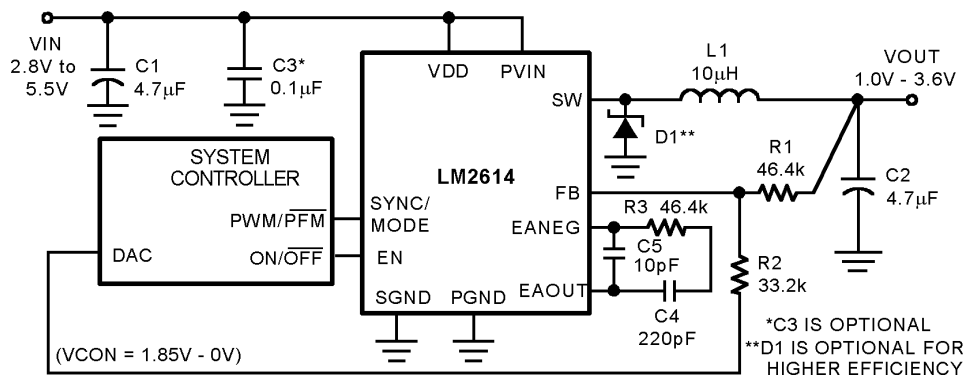

Figure 23. Typical Operating Circuit
- (1) The LM2614 is designed for mobile phone applications where turn-on after system power-up is controlled by the system controller. Thus, it should be kept in shutdown by holding the EN pin low until the input voltage exceeds 2.8V.
- (2) The hysteresis voltage is the minimum voltage swing on the FB pin that causes the internal feedback and control circuitry to turn the internal PFET switch on and then off during PFM mode. When resistor dividers are used like in the operating circuit of Figure 23, the hysteresis at the output will be the value of the hysteresis at the feedback pin times the resistor divider ratio. In this case, 24mV (typ) x ((46.4k + 33.2k)/33.2k).
- (3) Current limit is built-in, fixed, and not adjustable. If the current limit is reached while the voltage at the FB pin is pulled below 0.7V, the internal PFET switch turns off for 2.5μs to allow the inductor current to diminish.
LM2614ATL, Circuit of Figure 23, $V_{IN} = 3.6V$, $T_A = 25^\circ C$, unless otherwise noted.
DC PWM mode feedback voltage precision is ±1%. Efficiency is typically 96% for a 200mA load with 3.6V output, 3.9V input. The efficiency can be further increased by using a schottky diode like MBRM120 as shown in Figure 23. PWM mode quiescent current is 600µA typ. The output voltage is dynamically programmable from 1.0V to 3.6V by adjusting the voltage on the VCON at the external feedback resistors. This ensures longer battery life by being able to change the PA supply voltage dynamically depending on its transmitting power.
Referring to Figure 23, Figure 24, Figure 25 and Figure 26, the LM2614 operates as follows. During the first part of each switching cycle, the control block in the LM2614 turns on the internal PFET switch. This allows current to flow from the input through the inductor to the output filter capacitor and load. The inductor limits the current to a ramp with a slope of $(V_{IN}-V_{OUT})/L$, by storing energy in a magnetic field. During the second part of each cycle, the controller turns the PFET switch off, blocking current flow from the input, and then turns the NFET synchronous rectifier on. In response, the inductor's magnetic field collapses, generating a voltage that forces
(Circuit in Figure 23)**
The LM2614 uses external components connected to the EANEG and EAOUT pins to compensate the regulator (Figure 23). Typically, all that is required is a series connection of one capacitor (C4) and one resistor (R3). A capacitor (C5) can be connected across the EANEG and EAOUT pins to improve the noise immunity of the loop. C5 reacts with R3 to give a high frequency pole. C4 reacts with the high open loop gain of the error amplifier and the resistance at the EANEG pin to create the dominant pole for the system, while R3 and C4 react to create a zero in the frequency response. The pole rolls off the loop gain, to give a bandwidth somewhere between 10kHz and 50kHz, this avoids a 100kHz parasitic pole contributed by the current mode controller. Typical values in the 220pF to 1nF (C4) range are recommended to create a pole on the order of 10Hz or less.